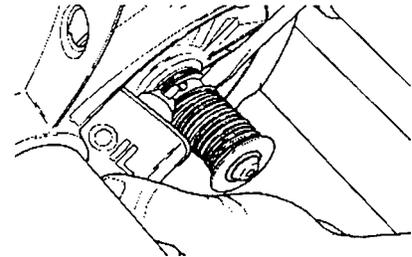

Figure D-3
12. To oil the lower floating sheaves, rotate the main spindle by hand until you find the hole in its sleeve. This hole may be difficult to find because of the spring that fits over the sleeve. When you find the hole, spread the coils of the spring over the hole with a large blade screwdriver. Then apply 2-5 drops of oil in the hole, as shown in Figure D-3. (You can also accomplish this by oiling the shaft directly. With a screwdriver push the spring back towards the sheave and apply 2 - 5 drops of oil.